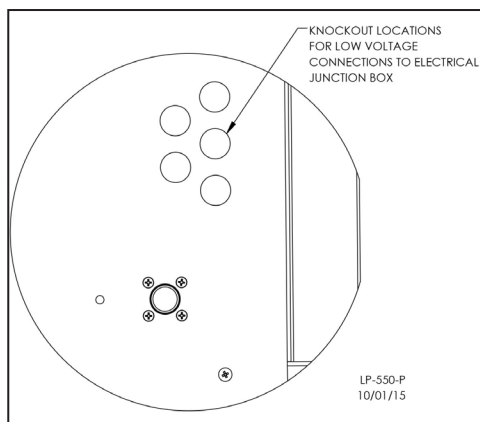

Figure 23 - Knockout Locations
1. All low voltage cables should enter the electrical junction box through the provided knock out holes as shown in Figure 23.